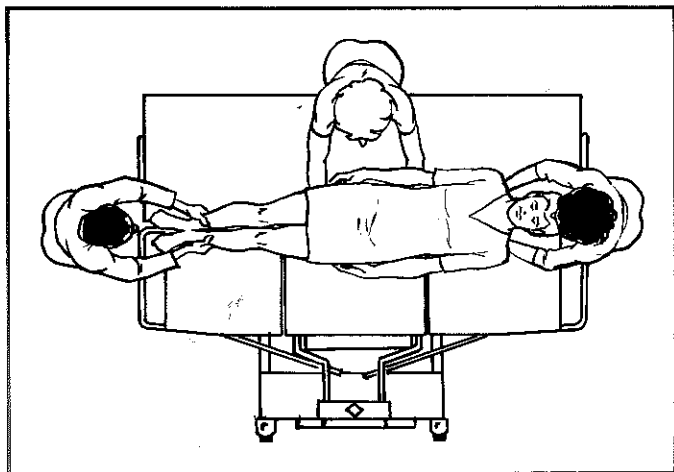

Figure 3-16
5. USE A MINIMUM OF TWO ATTENDANTS and carefully slide patient or resident onto Lift Stretcher. (More attendants may be required for obese patients or residents, see Figure 3-16.)
17. USE A MINIMUM OF TWO ATTENDANTS. Lower headrest and release three Restraint Belts. Carefully slide patient or resident into bed or transfer litter. (More attendants may be required for obese patients or residents, see Figure 3-16.)